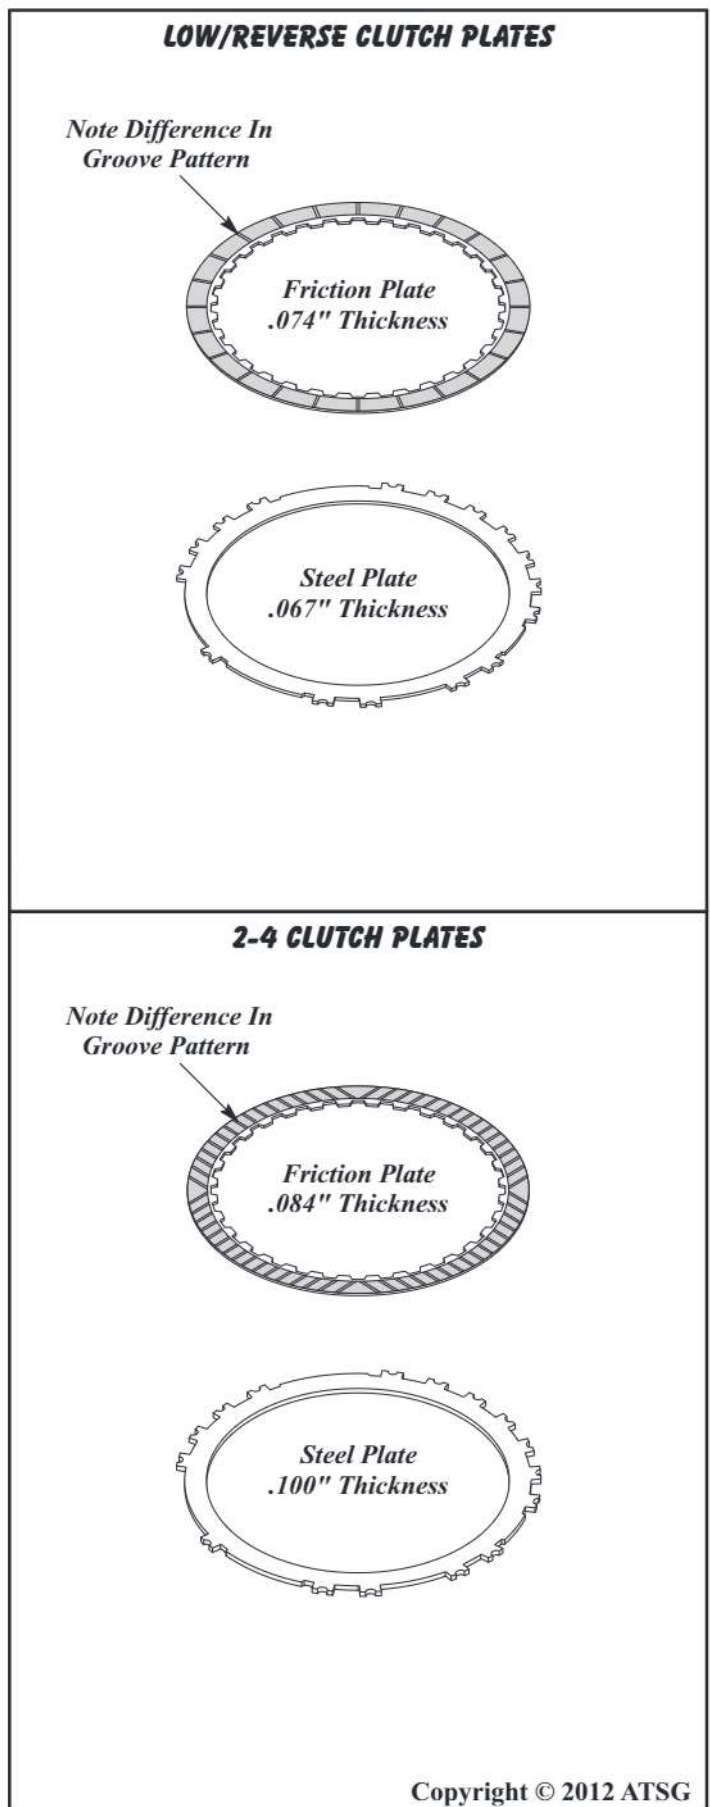

Figure 243
26. The Low/Reverse friction plates are a different thickness and have different groove pattern than 2-4 friction plates, as shown in Figure 243.
27. The Low/Reverse steel plates are a different thickness than the 2-4 steel plates, as shown in Figure 243.